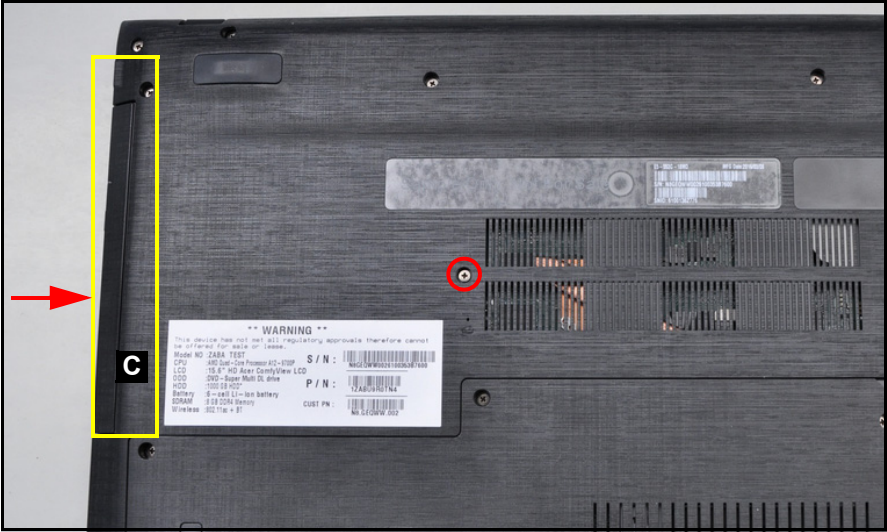

Figure 3-122. Replacing the ODD Module
- 4. Slide the ODD module (C) into the ODD bay (Figure 3-122).
- 5. Install and secure one (1) screw to the ODD module (Figure 3-122).